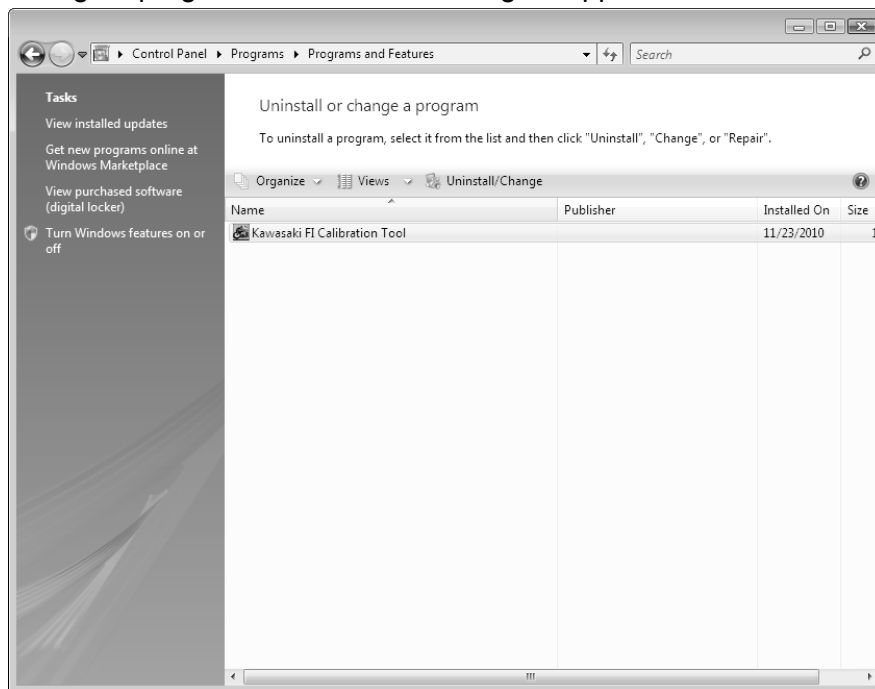

Fig. 25 Uninstall or change a program screen
- (2) **Uninstall or change a program screen shown in Fig.25 appears.**